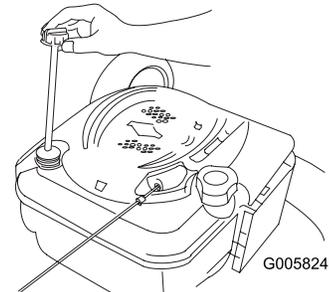

Figure 27
2. Remove the dipstick (Figure 27).